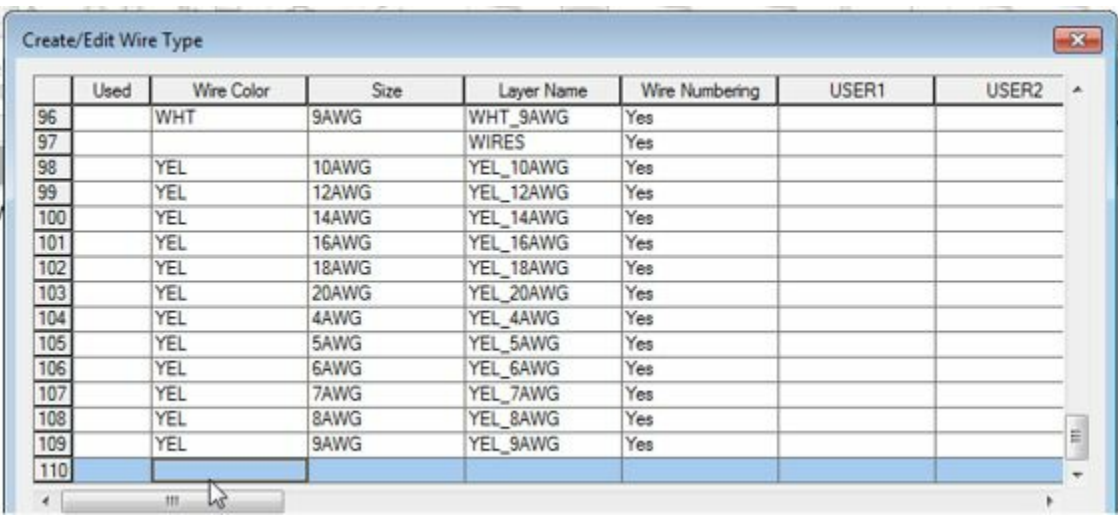

Figure-70. Wire Color field
- To add a new wire type, slide down the bottom of table and click in the **Wire Color** field; refer to Figure-70.